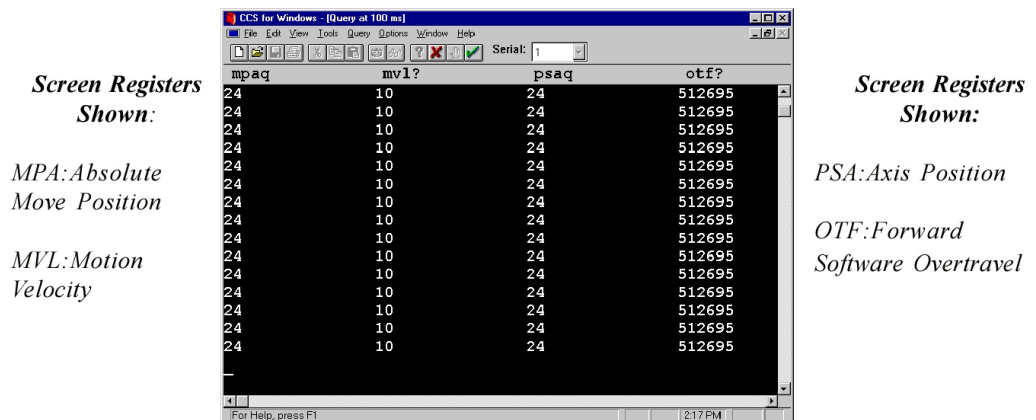

Figure 6.11: Results of IMC Register Queries
3. Click **OK**—real-time values for the registers you have chosen will report on-screen (see figure 6.11).